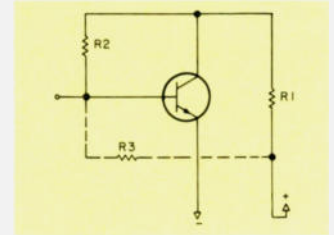

Fig. 10. A simple transistor bias circuit.
Look at the circuit in Fig. 10. Resistor R1 is the load resistance for the transistor. It has the same function as the tube load resistance (RL). R2 and R3 are different ways to introduce bias to the transistor. R2 is one of the more stable ways to do it. Transistors are prone to a number of screwball bad habits. Thermal runaway is one. When it gets hot, it draws more current and gets hotter and draws even more current and pfffft!